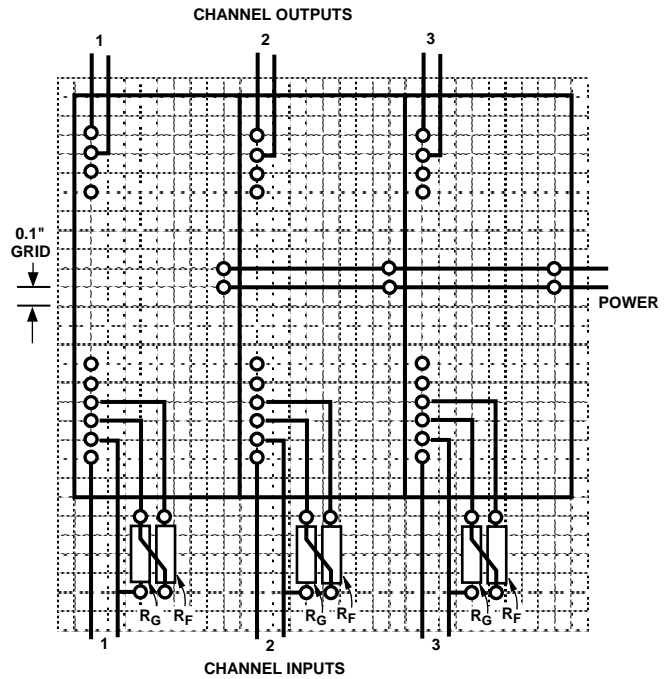

Figure 8. PCB Layout for Multichannel Applications with Gain
**PCB Layout for Multichannel Applications:** The unique pinout positioning minimizes board space constraints for multichannel applications. Figure 8 shows the recommended printed circuit board layout for a noninverting input configuration with gain.